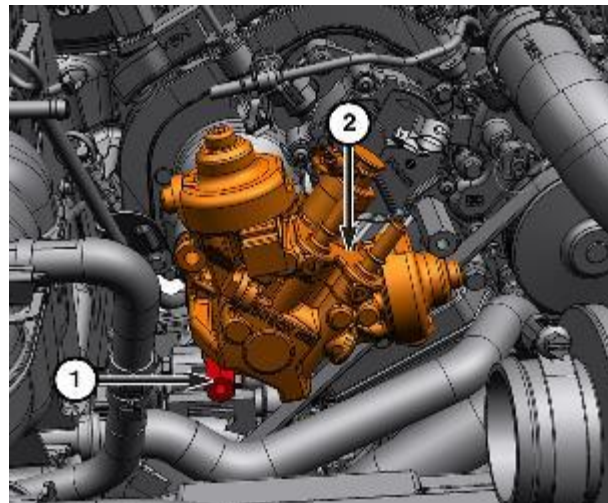

Figure 25 – HPFP Lower Bolt
29. Remove the lower bolt (1) from the HPFP and remove it from the vehicle (Figure 25).